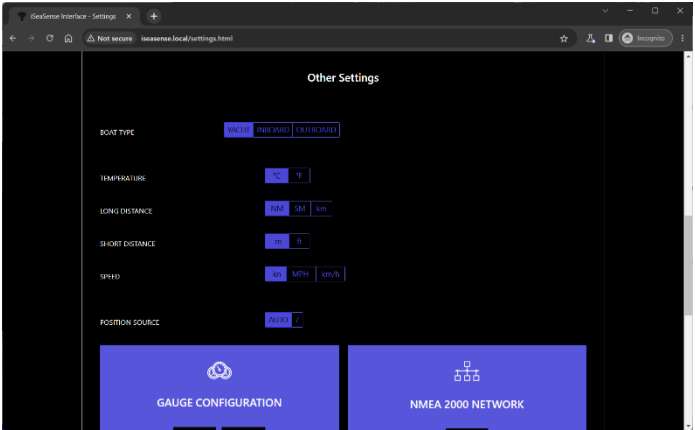

Figure 14
- Units Settings (Fig 14)
By default iSeaSense is configured to display European Metric Units, all of which can be easily changed in the Other Settings section as shown in Fig 14. As a unit is changed, it will be immediately applied and you do not need to save the changes.